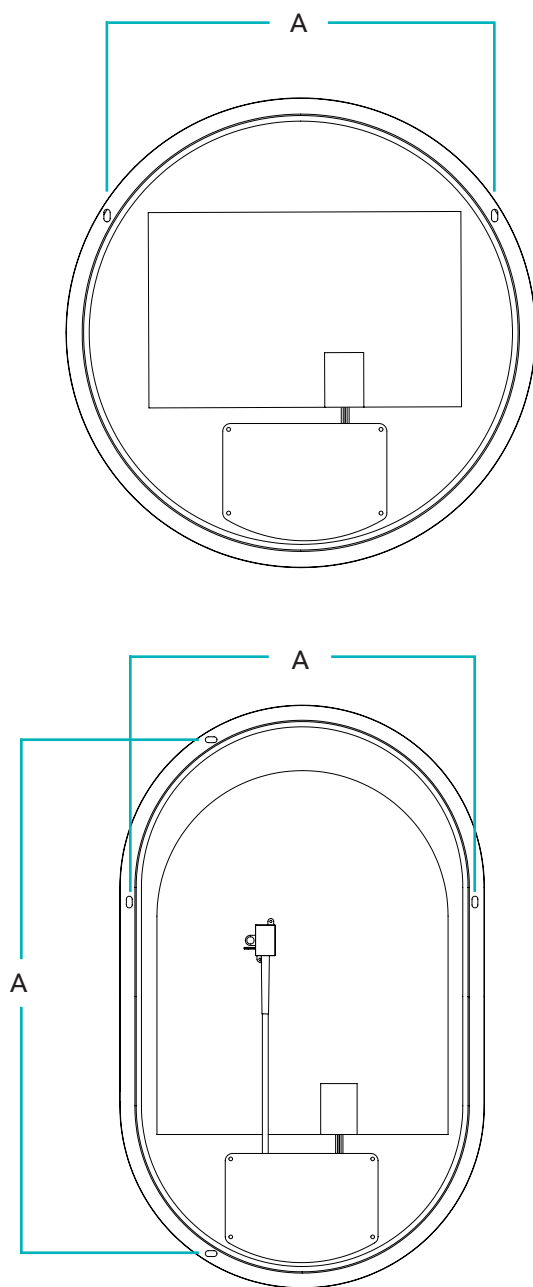

Fig 2. - Mounting points
2. Carefully mark the position of the mirror using a soft pencil ensuring it is level. Remove the mirror and mark the mounting points, *see Fig. 2*. ***Please ensure that all marked mounting points accurately match up with the fixing points on the mirror.***